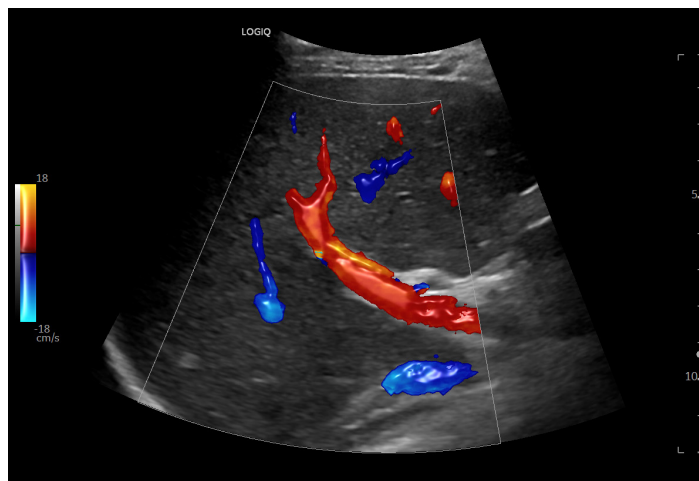

Figure 2. Separation of hepatic artery and portal vein using CF imaging.
- Hepatic artery and portal vein separation (Figure 2)